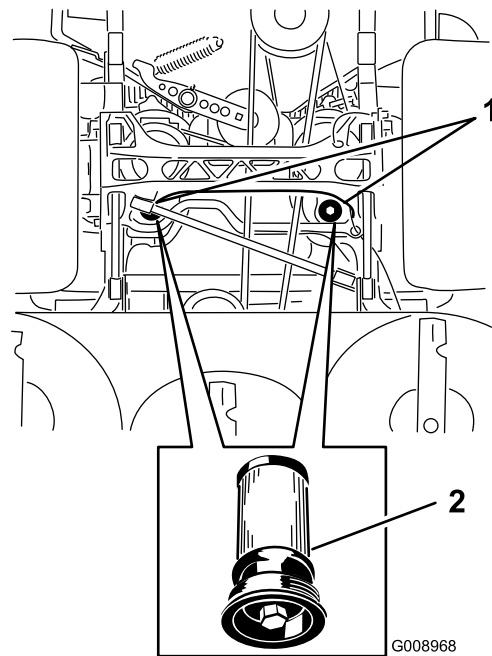

Figure 87
5. Place a drain pan under the filter, remove the old filter, and wipe the surface clean (Figure 87).
6. Apply a thin coat of hydraulic fluid to the rubber gasket on the replacement filter (Figure 87).